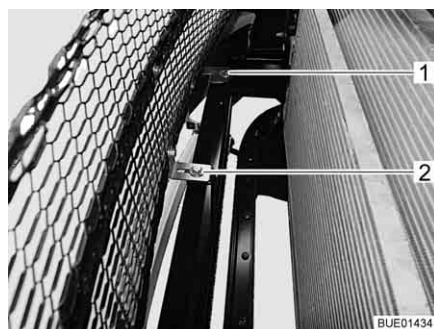

Fig. 259 Fixing the plastic projection
- On the front frame, unscrew and remove 2 screws (Fig. 259,1 and 2) with washers.
- On the apron next to the engine bay opening, unscrew and remove 2 screws (Fig. 259,4) with washers.